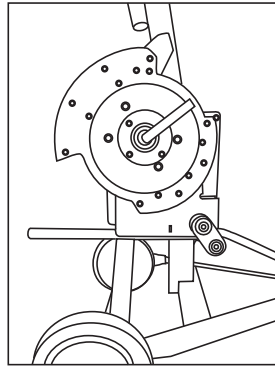

Fig 4
- e. Before rotating the MBCCH-1250 shoe, flip the Conduit Roller (3) up to allow access to upper roller.
- f. To rotate the MBCCH-1250 shoe, position the Handle Receiver (4) all the way forward and apply pressure to handle while manually turning the shoe until the 1" side of shoe is facing down (Fig. 4).
3. To switch from the 3/4" Dual Bending Shoe (1) to the 1" side of Dual Bending Shoe (1) on RBCCH-1000.